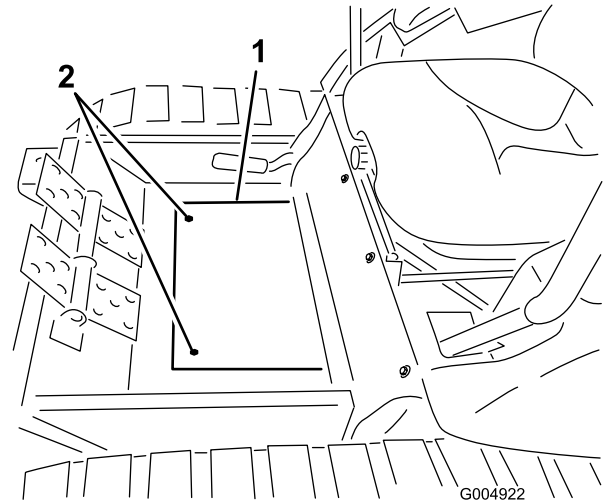

Figure 33
3. Remove the two screws securing the winter frame floor plate cover to the floor and remove the plate (Figure 33).